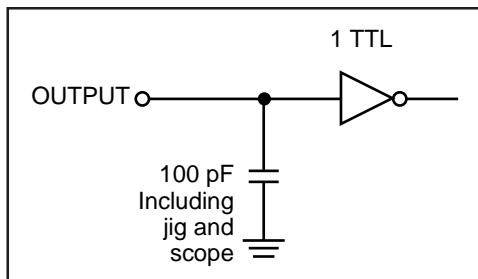

Figure 1
- Test conditions assume signal transition times of 5 ns or less, input pulse levels of 0.4V to 1.4V and output loading specified in Figure 1.
Output Load	See Figures 1 and 2